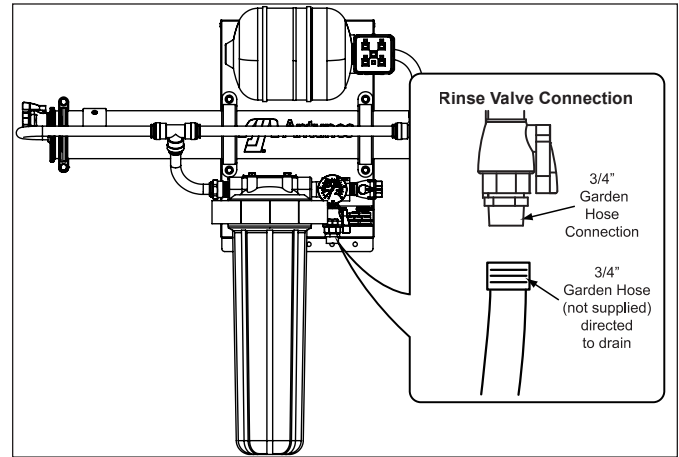

Figure 6. Rinse Valve Connection
3. Connect the hose to the Rinse Valve fitting. Use a back-up wrench on the fitting if required (Figure 6).